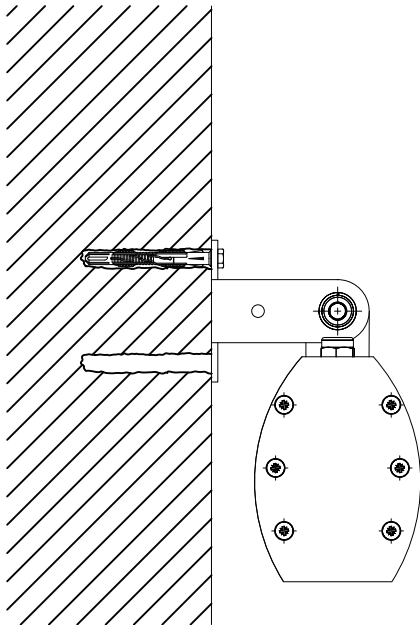

Fig. 1
- Mount the hanging bracket with dowels and screws. (Fig. 1)